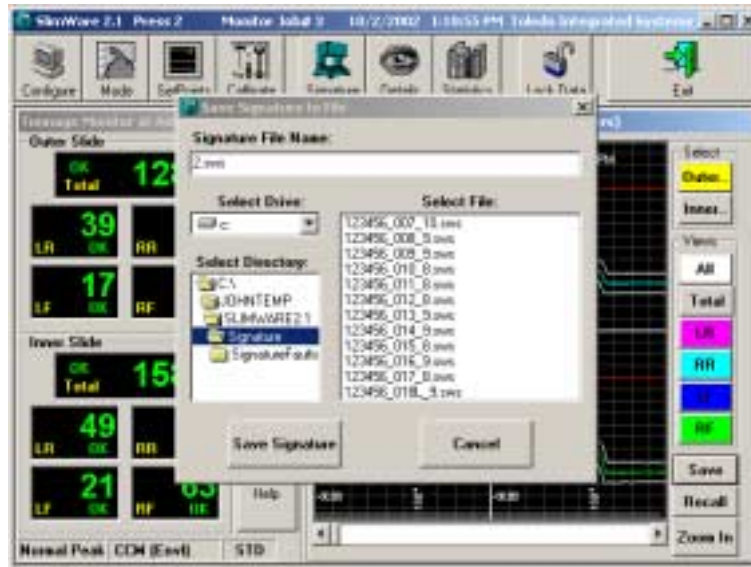

Figure 10.11 - Save Signature to File Prompt Box
- Download a signature from the online Slim load monitor. When the download is complete, select the **Save** button on the System Process window. The **Save Signature to File** prompt box will be displayed as shown in Figure 10.11.